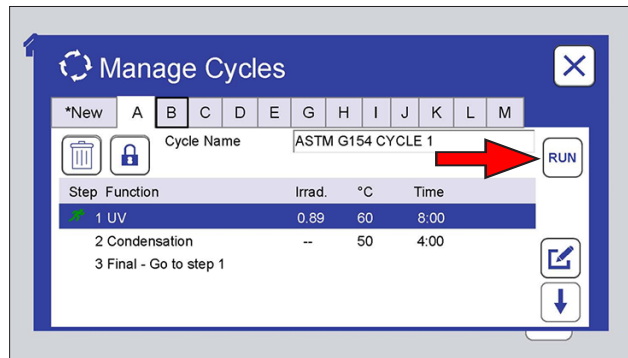
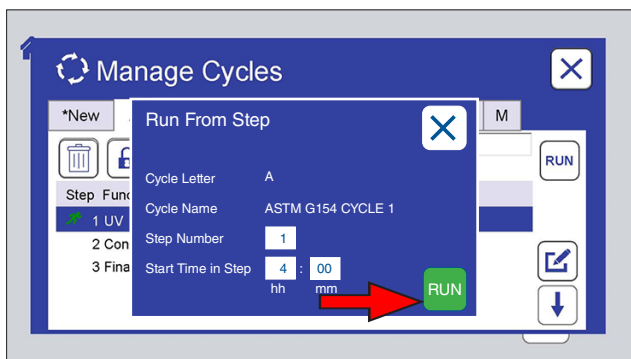

Figure 9.6.8a: A cycle can be run from a specified time in one of its steps. Select the step, then touch the Run icon.
Figure 9.6.8d: Touch the Run icon to run the step from the time entered.
- o Run a cycle from any of its steps (Figure 9.6.8a through Figure 9.6.8d).
- The QUV main controller can store thirteen (13) test cycles.
- A test cycle can consist of up to twenty-five (25) steps.